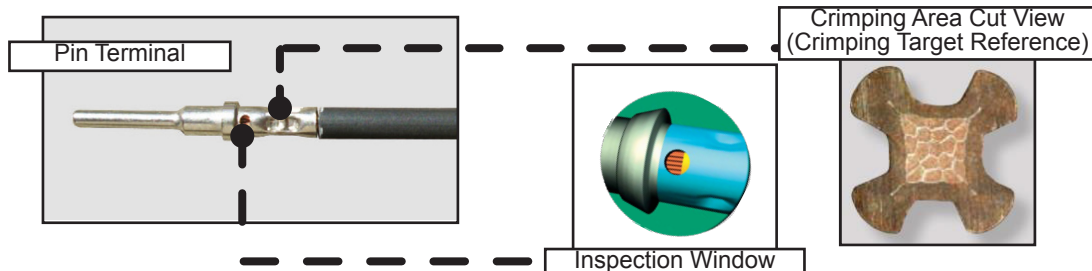

Figure 17 - Deutsch DT Pin Terminal
- 1.30. Using the Deutsch DT crimping tool (see figure 11), crimp the pin terminal PN G5900719 on both WHITE and RED control wires (see figure 17). Refer to the figure below showing a typical Deutsch DT solid socket terminal crimp example and to Annex 3 for more information about the TE Connectivity's Deutsch DT solid terminals crimping quality guidelines.